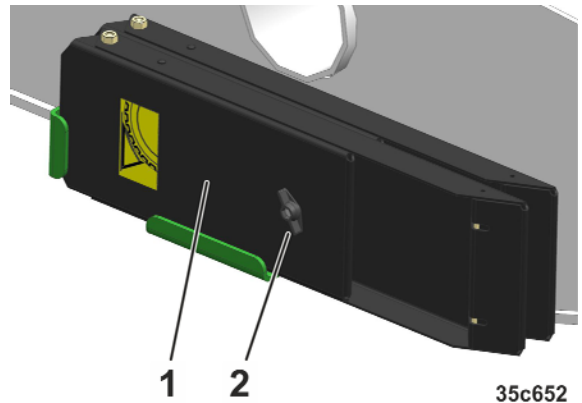

Fig. 120
18. Stow the wheel chocks (Fig. 120/1) in the brackets and secure with a wing nut (Fig. 120/2).